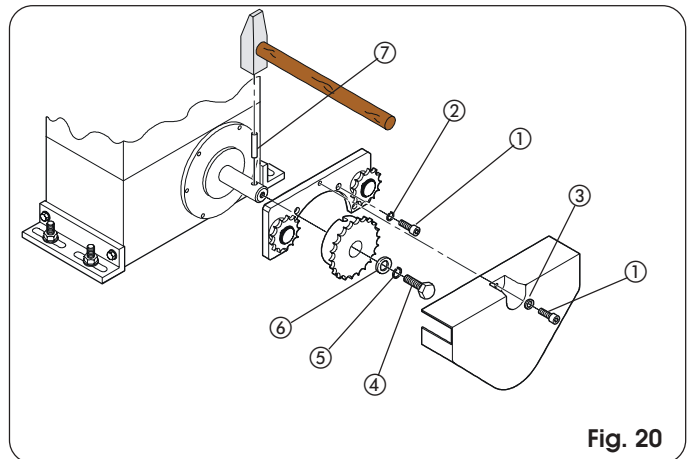
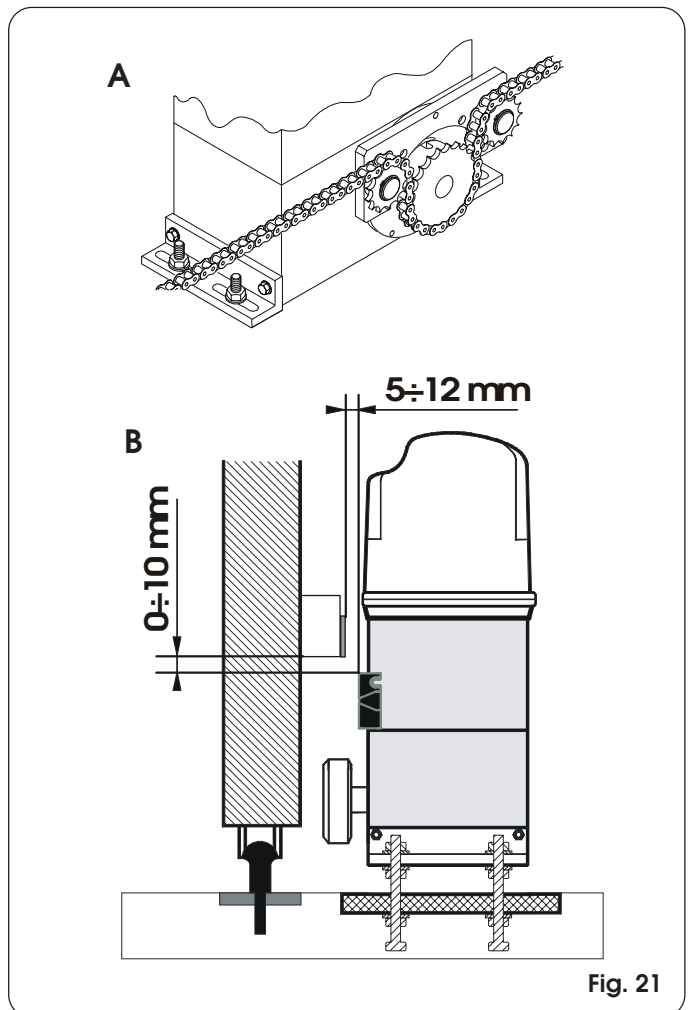

Fig. 20
Fig. 21
4.5.2. MOD. 844 ER RF (Figs. 20 - 21)
- 1) Insert the spring pin ⑦ on the shaft, using a hammer.
- 2) Fit the idle transmissions bracket on the gearmotor flange, using the four screws ① (M5 x 12) and the appropriate washers ②, in the kit as shown in Fig. 20.
- 3) Fit the chain pinion on the shaft, making the pinion seats coincide with the spring pin and tighten the screw ④ and the appropriate washers ⑤ and ⑥.
- 4) Pass the chain as shown in Fig. 21 ref. A and install the housing with screw ① and washer ③ as in Fig. 20.
- 5) In case of operators with MLS limit switches, arrange the supports for the positioning of the magnets supplied while observing the dimensions given in fig. 21 ref. B.